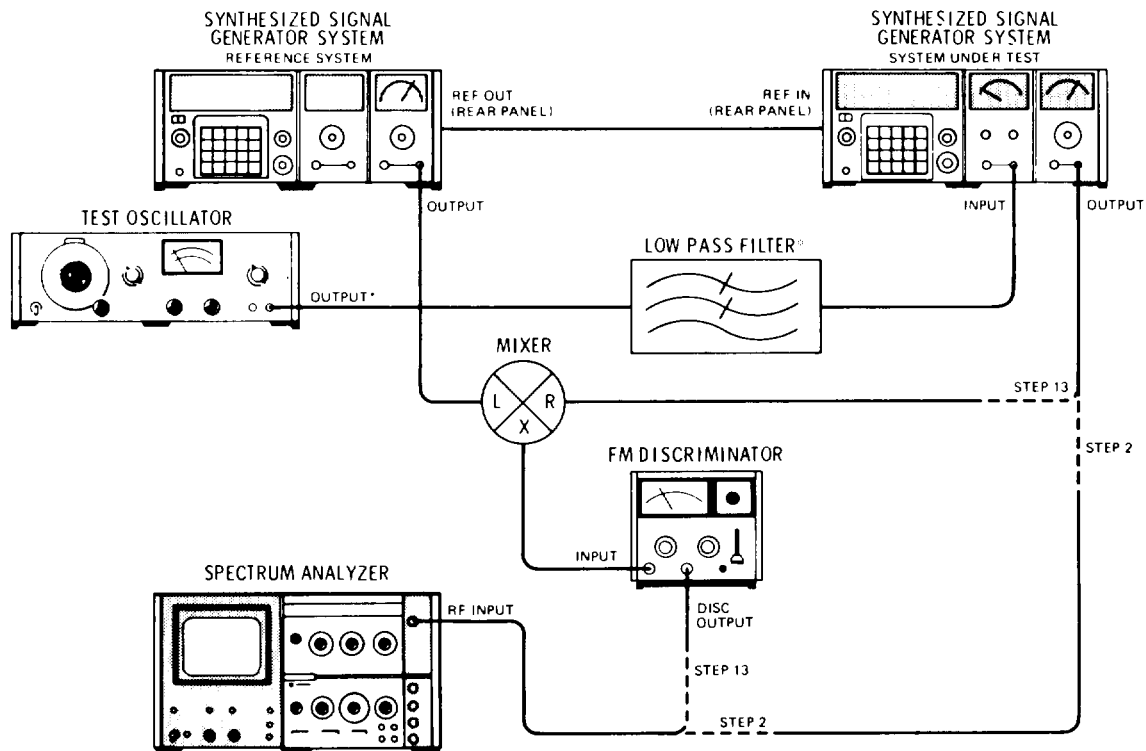

Figure 5-5A. Phase Modulation Level and Distortion Adjustment Test Setup
2. Connect the equipment as shown in Figure 5-5A. Connect the output of the System Under Test directly to the spectrum analyzer RF input. Be sure to use the correct impedance test oscillator output and the correct low pass filter.
\*In Figure 5-5A. the test oscillator output and low pass filter impedances are 50s when the modulation section being used is a Model 86634A and 60012 when used with an 86635A.